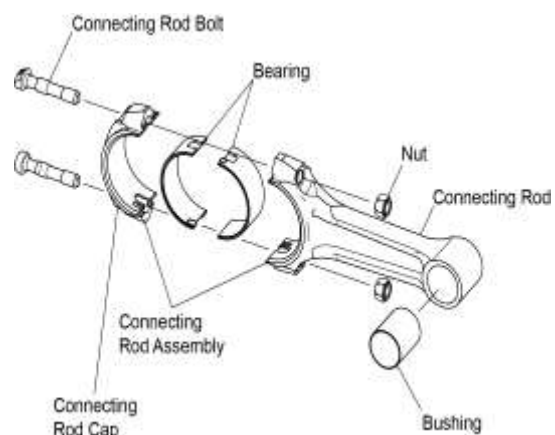

Figure 21
- A. Remove and discard the two nuts (Figure 21) and the two bolts that attach the connecting rod cap to the connecting rod.